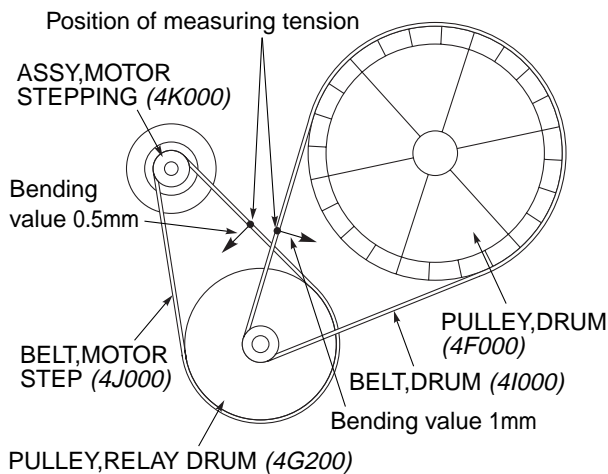

Fig. 3-7-1
(See Figs. 3-7-1 to 3-7-3)
- c. Set the Ruler (VJ8-0228) along the "BELT,DRUM (4I000)", and confirm that the pressure welding value is $[1.34N \pm 0.29N]$ when pressing the Dial Tension Gauge DTN-150G (VJ8-0226) until play in the "BELT,DRUM (4I000)" is 1mm. The measuring position and the direction of pressure are shown in Fig. 3-7-1.